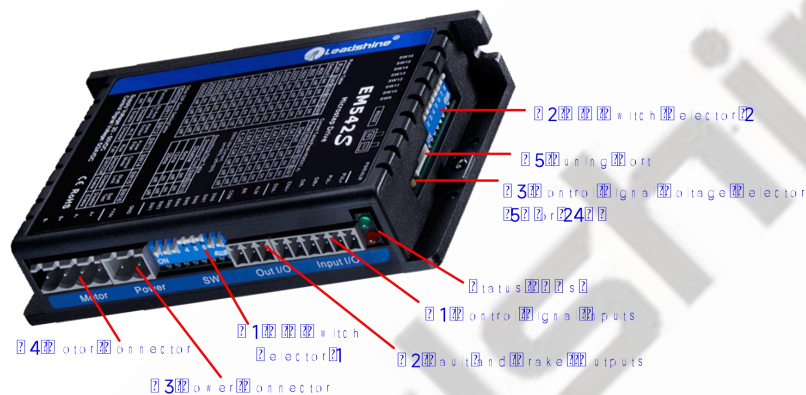

Figure 2 Connectors, DIP switches, and LED locations
DIR- (CCW-)	(4) Single pulse (step & direction) or double pulse (CW/CCW) is set by DIP Switch SW14 (5) DIR signal requires advance PUL signal minimum 5 μs in single pulse mode (6) The activated edge of PUL and DIR is set by DIP Switch SW13 (7) The factory setting of control signal voltage is 24V, must need to set S3 (figure 2) if it is 5V
ENA-	(3) ENA signal requires advance DIR signal minimum 5μs in single pulse mode (4) The default control signal voltage is 24V, to set S3 (figure 2) if it is 5V (5) Enable time to be at least 200ms
The DM542 can accept differential or single-ended control signals (pulse, direction, and enable) in open-collector or PNP connection through the P1 connector (figure 2). It is recommend to add an EMI line filter between the power supply and the drive to increase noise immunity for the drive in interference environments.
The first 8-bit is located on the side (DIP switch selector 1 in Figure 2) and used to configure settings of micro step resolution, output current, and motor standstill current as shown below, the factory setting of SW1-SW8 is **ON, ON, ON, OFF, OFF, OFF, ON, ON**.
The second 8-bit DIP switch is located on the top (DIP switch selector 2 in figure 2), and used to configure settings of control command filtering time, motor auto-configuration, fault output impedance, pulse active edge, control mode, lock shaft, and self-test as shown below, the factory setting of SW1-SW8 is **OFF, OFF, OFF, OFF, OFF, OFF, OFF, OFF**.
The Third 1-bit selector is located on the top (DIP switch selector 3 in figure 2), used to configure the voltage of control signals. For the safety of optically coupled, the factory setting is 24V, which no need to connect 2K resistors like the old drives, making it easier to use. When the voltage of the control signal is 5V, the S3 must be set to 5V , otherwise, the motor won't work.